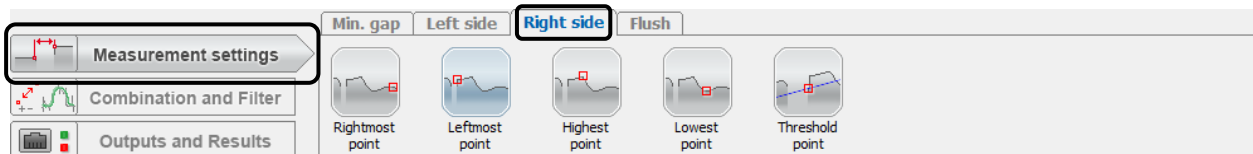

Fig. 3.36: "Measurement settings" input field, "Right side" tab sheet
- Repeat the procedure on the "Right side" tab (see Fig. 3.36).